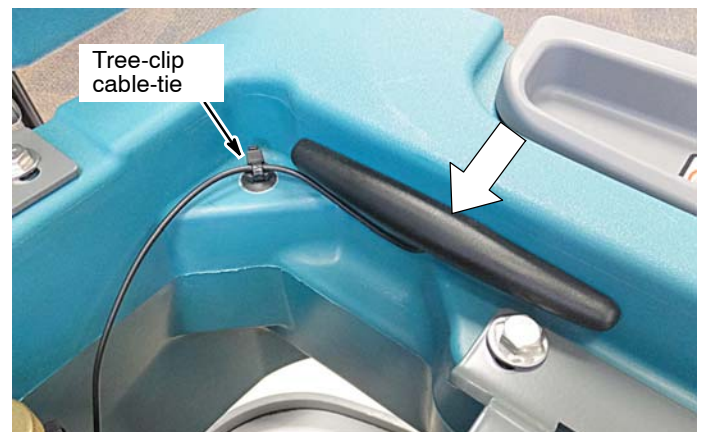

Fig. 16
12. Adhere the telemetry antenna to the machine as shown (Figure 16). Secure the antenna wire with a tree-clip cable-tie [1210807] as shown.